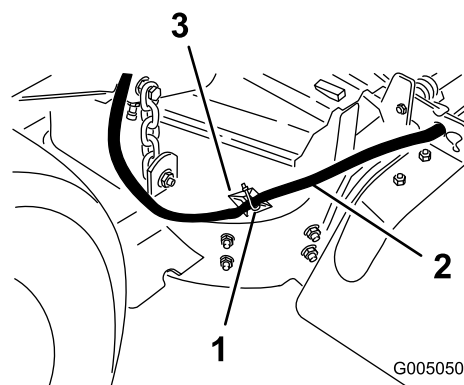

Figure 8
5. For all other mowers, install the adhesive back plastic mount on a smooth clean surface. Thread the cable tie through the plastic mount and secure the cables with the cable tie (Figure 8).